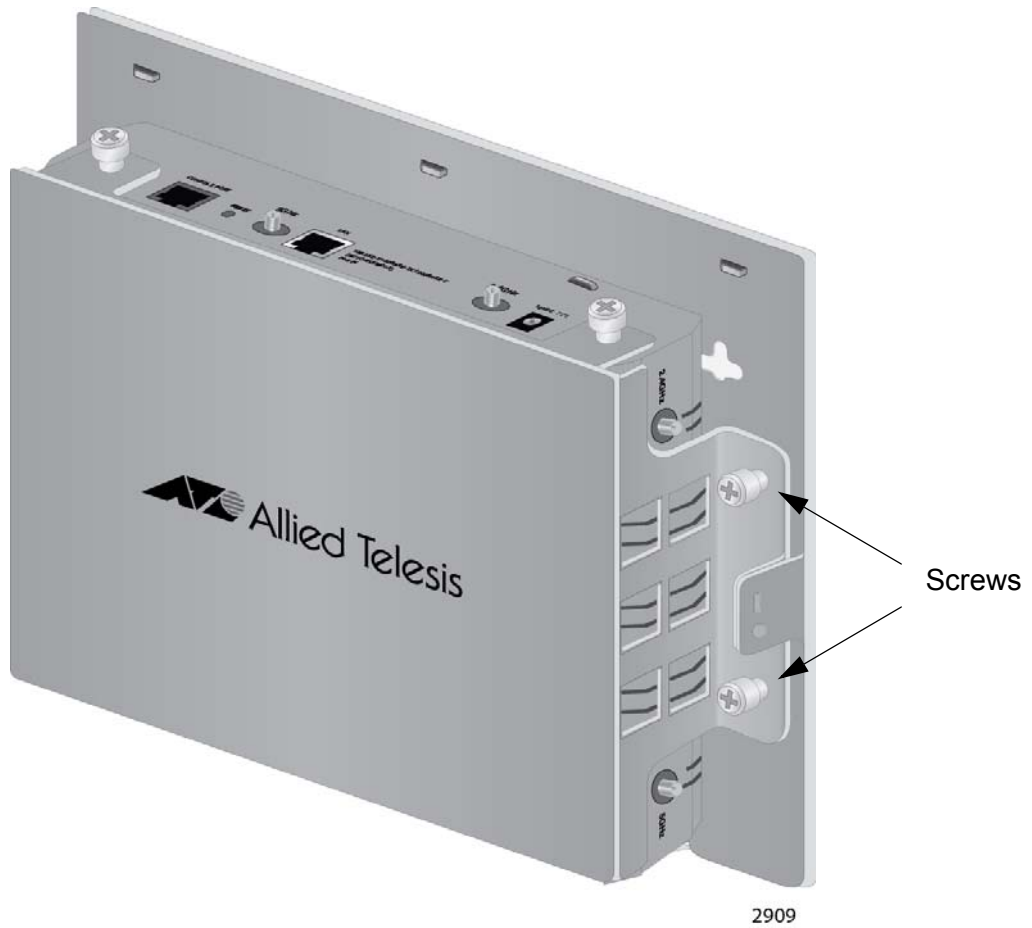

Figure 23. Tightening the Screws to Secure the Top Panel and Access Port to the Bottom Panel
5. Secure the top panel and access point to the bottom panel by tightening the two captive screws on the top panel. Refer to Figure 23.